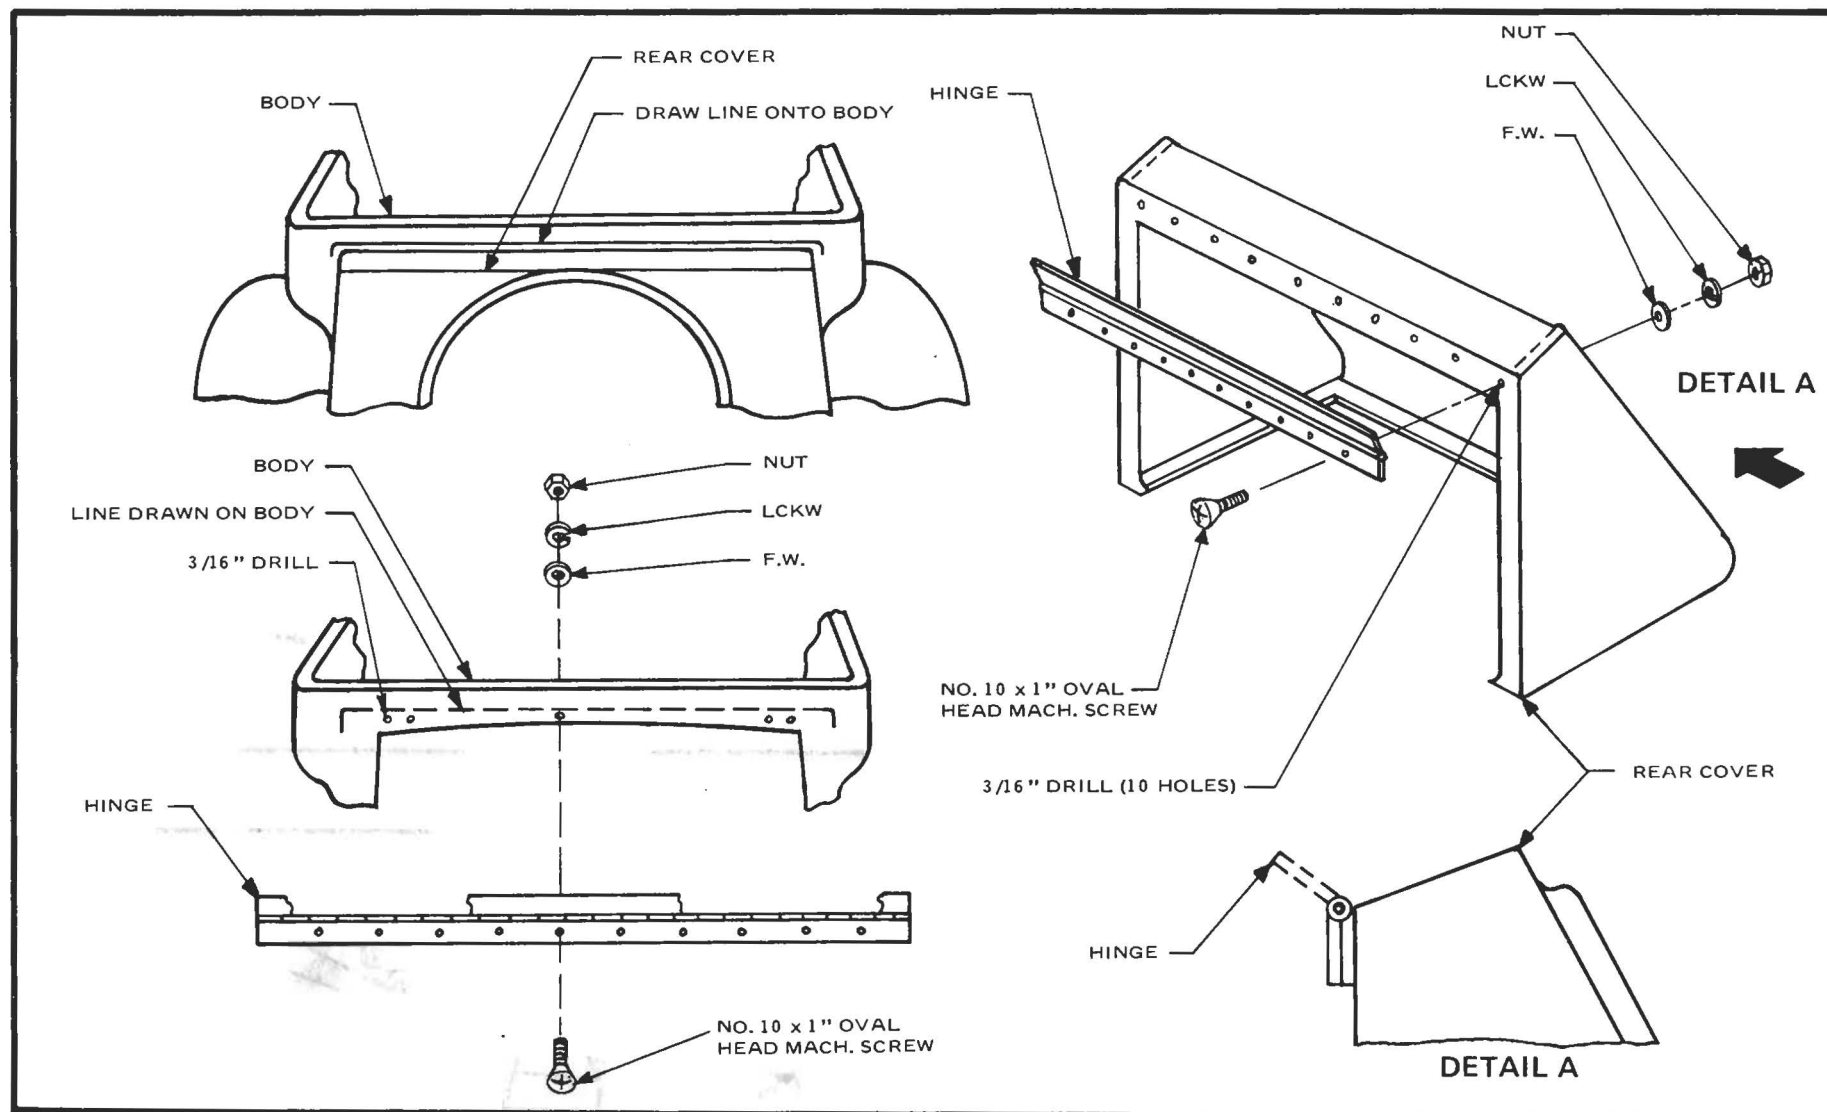

Figure 33
- ☐ Remove rear cover and align closed hinge as shown. (Figure 33) Mark and drill all holes. Secure with 3 screws (temporarily). Reposition cover on car.